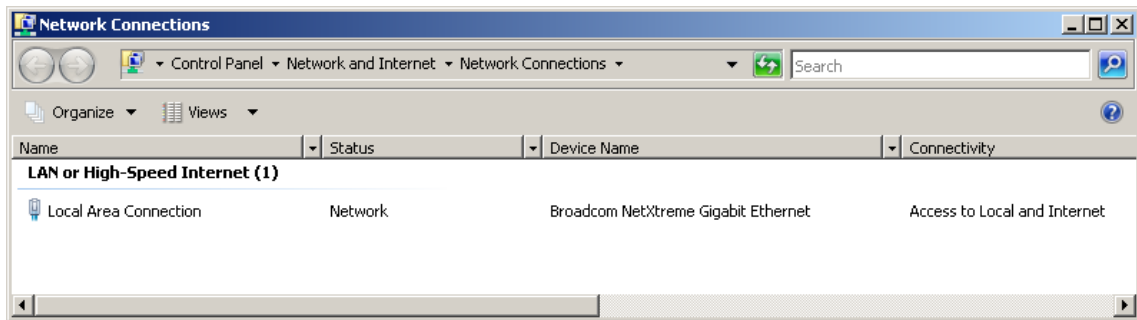

Figure 1.5-1 Network Connections dialog box
Select “Manage Network Connections” from the Task menu in “Properties” dialog box. A “Network Connections” dialog box (Figure 1.5-1) will appear.
- For Windows XP, right click on the icon “My Network” on the desktop, and select “Properties” from the popup menu. A “Network and Dial-up Connections” dialog box (Figure 1.5-1) will appear.
- (3) Confirm that the network card used to connect to the C1 controller appears in the name field in the Network Connections dialog box (Figure 1.5-1). After confirming that the network card is registered, right click on its name. Select “Properties” from the popup menu. If the “User Account Control (UAC)” dialog box appears, click [Continue] button.